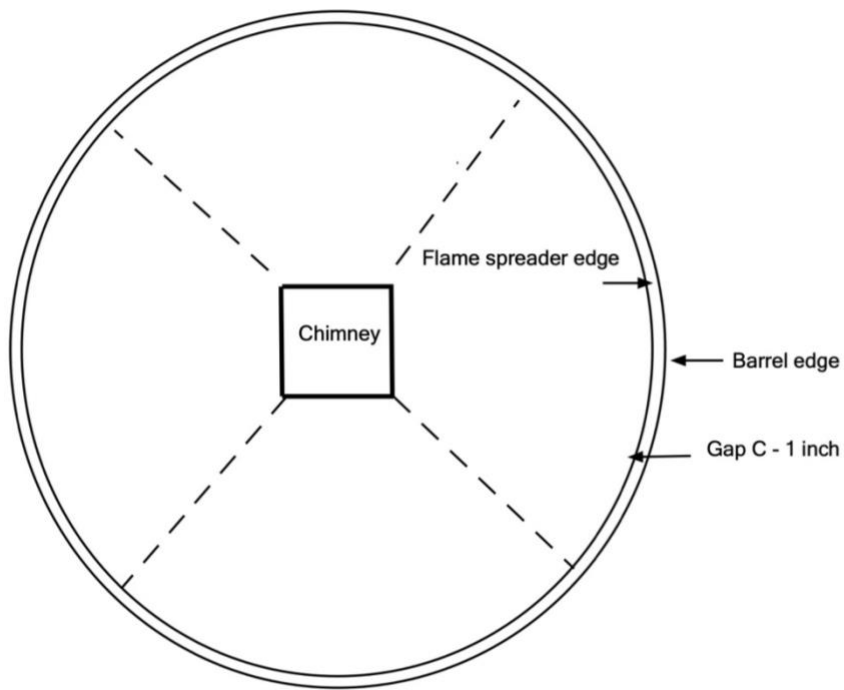

Figure 3 - Flame spreader. (Image credit: Future Generations University)
The flame spreader is the most complex component of the stove. It is determined as the distance from the plane of the top of the chimney to the edge of the pan decreasing at a rate that keeps the airspace volumes constant. If the distances are too small it restricts the airflow, resulting in incomplete combustion. If the distances are too large the hot gasses are not forced close to the pan, resulting in less-than-optimal heat transfer. The easiest way to do this is by welding together four independent plates, as shown in Figure 3.
9. With either the help of a second person or clamps to make sure the edges are tight, tack “Chimney Side #2” on top of the existing assembly (see Figure 3).
- The stove may need some minor adjustments to achieve optimum performance. When first lit, the smoke comes back out of the wood feed shoot. After the chimney has warmed, the air flow reverses, and smoke is drawn up into the stack. Stack emissions will turn clear as the system gets hot. If this reversal is not achieved, it could be that the gaps are too small, restricting air flow. A solution is to make risers to lift the sap pan the proper distances off the barrel rim and then seal the resulting gap with 1-inch rope gasket material (Figure 3). If a rolling boil on the bottom of the sap pan is not achievable, the distances may be too great and the chimney may need to be raised a bit.